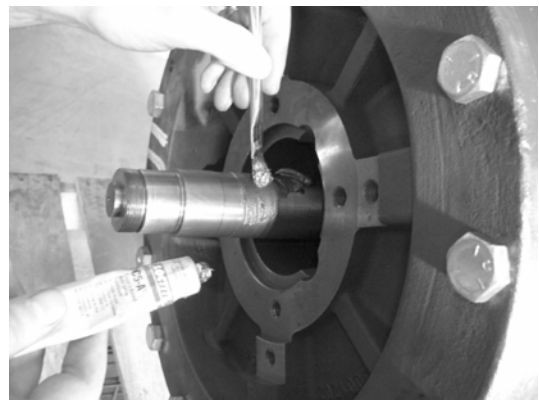

Figure 44: Applying Anti-seize Compound to the Shaft
5. Apply anti-seize compound only to the area of the shaft that will be under the sleeve. (See Figure 44.)